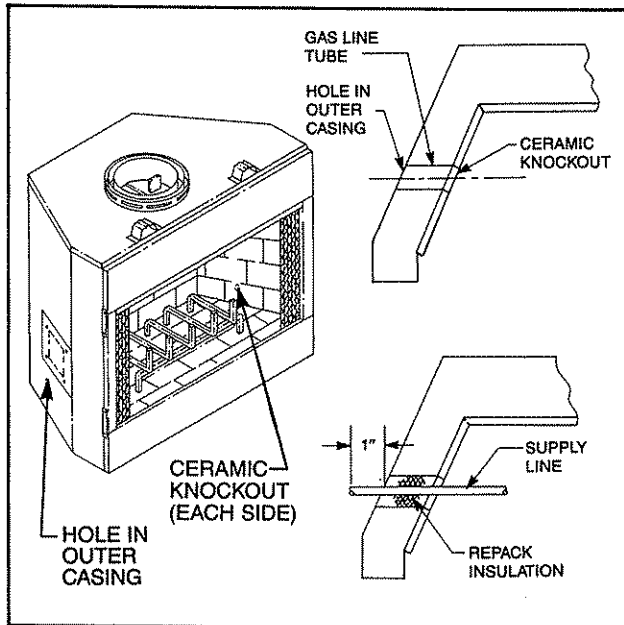

Fig. 26. Install iron pipe gas line through hole provided in either side of fireplace.
Locate the gas line hole in the outer casing of the fireplace and remove the insulation from the gas line tube. (Refer to Fig. 26.)
**NOTE:** The gas pipe should not come in contact with any wood structures until it has reached a point at least one (1) inch away from the fireplace side. (See Fig. 26 for installation clarification.)